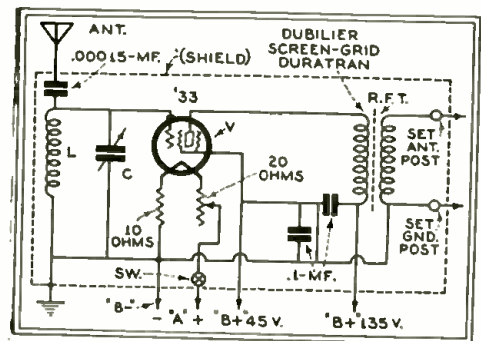

Fig. 4
**M**ANY radio receivers, particularly those which employ a blocking tube as the first amplifier in the set, lack sensitivity when used in localities remote from broadcasting stations. To meet this condition, the writer built up numerous booster units of the design shown in Fig. 4. Tube V may be a standard type 33, for operation on dry cells, or it may be of the A.C. type, its filament lighted by means of a small transformer. The entire unit must be shielded, as indicated by the dotted lines. All leads must be kept short, particularly the control-grid cap lead of tube V. The output R.F. transformer R.F.T. is an untuned unit such as the Dubilier Duratran. Coil L should be compact: It may be made by winding 125 turns of No. 28 D.C.C. wire in a single layer on a one-inch tube 1 1/2 inches long. Tuning condenser C may be a Cardwell type 407B Midway Condenser having a capacity of .000365-mf.; for other tuning condensers it will be necessary to slightly change the number of turns in coil L to match.